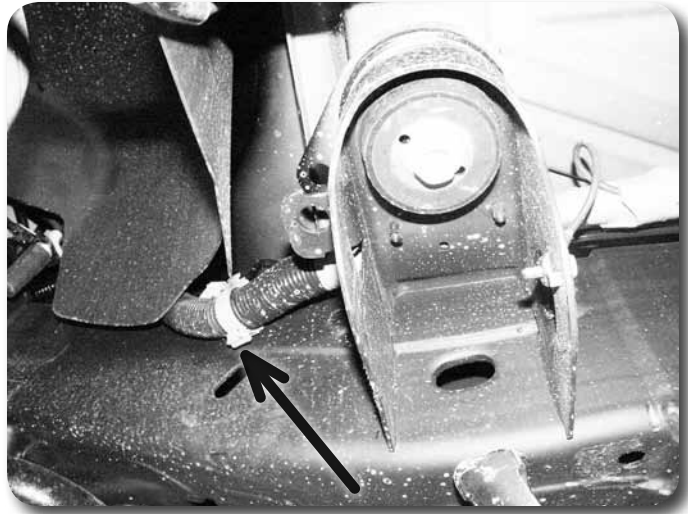

Figure 16
22. Disconnect the large wire harness that runs down the driver's side frame rail from the retaining clip at the rear portion of the front wheel well Figure 16.
24. Disconnect the shift linkage located between the shift lever and the transfer case. Using a small screwdriver pry back the spring clips while pulling the link free from the ball sockets. **Figure 16**